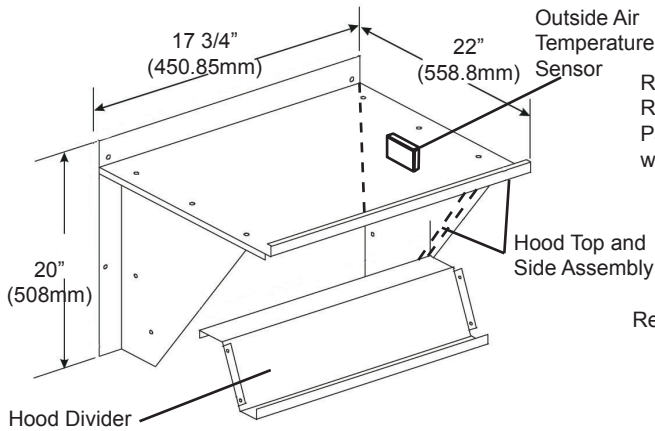

Fig. 4 - Hood Assembly
12. Remove the hood parts from the economizer package. Assemble as shown in Fig. 4 by screwing together with provided #10 sheet metal screws.
14. The outside air temperature sensor (OAT) is factory mounted to the side of the hood, see Fig. 4. Connect the sensor to the economizer harness per wiring diagram.